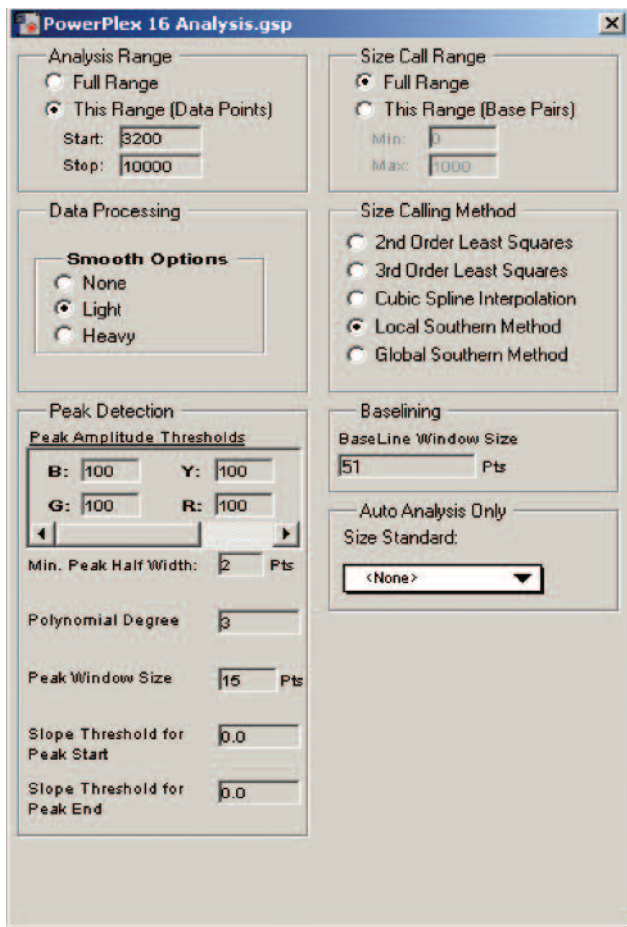

Figure 8. The Analysis Parameters window. The start point of the analysis range, which will vary, is defined in Step 2.
3. The recommended analysis parameters are shown in Figure 8.